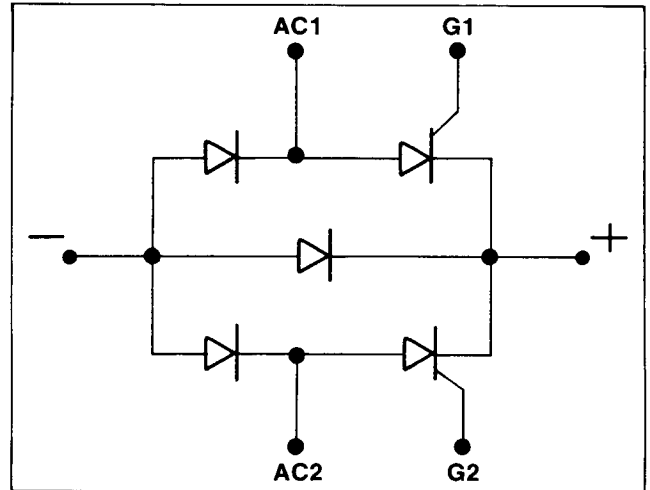

Figure 3-3. SCR Module
1. Check SCR Module with ohmmeter on RX1 Scale (Figure 3-3).